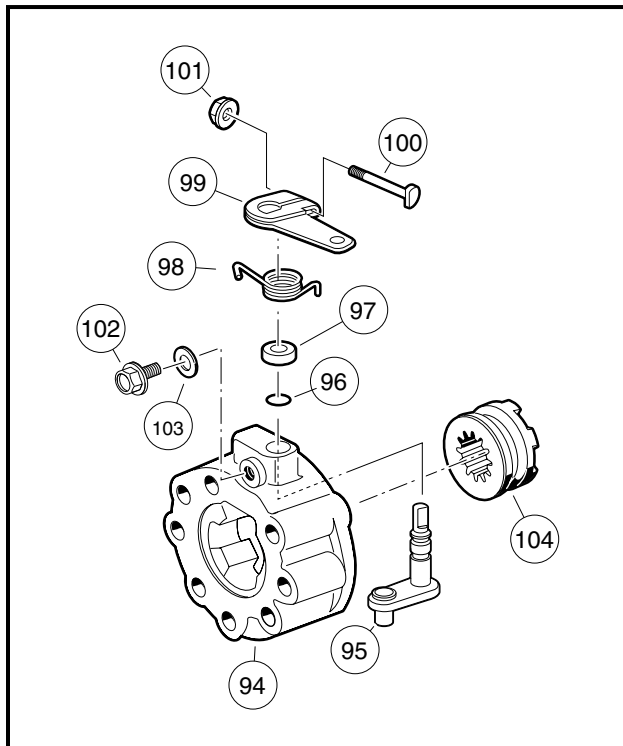

Figure 6-13 Differential Lock Housing Disassembly
1. Rotate the arm (99) and remove the differential lock cog (104) (**Figure 6-13, Page 6-7**).
2. Loosen, but do not remove, the differential lock arm retaining nut (101) and remove the arm (99) and spring (98) from the differential lock shaft (95).
3. Remove the spacer (97) from the differential lock shaft (95).
4. Remove the shaft retaining screw (102) and washer (103) from the differential lock housing.
5. Press the shaft (95) toward the center of the differential lock housing and remove it from the housing (94).
6. Inspect the O-ring (96) on the differential lock shaft (**Figure 6-13, Page 6-7**).